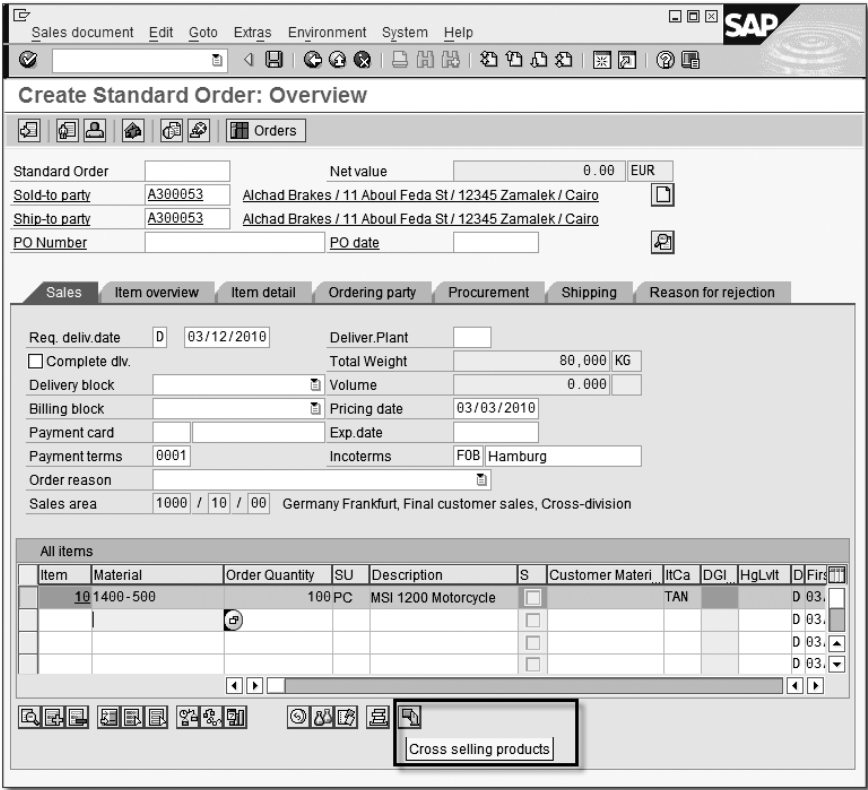

Figure 3.19 Create Standard Order – Using Cross Selling Products
3. Enter the material number for the main product, and then click on the CROSS SALES icon at the bottom right of the screen, as highlighted in Figure 3.19.